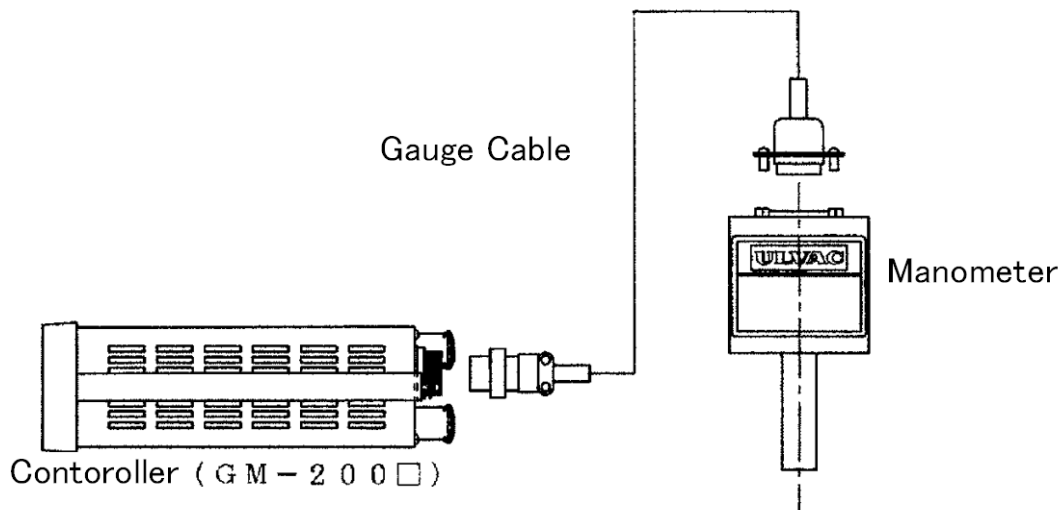

Fig. 4-3 Connection diagram for GM-200□
- (1) Connect Controller GM-200□ and manometer, gauge cable.(refer to Fig. 4-3)
- (2) Tighten a screw well